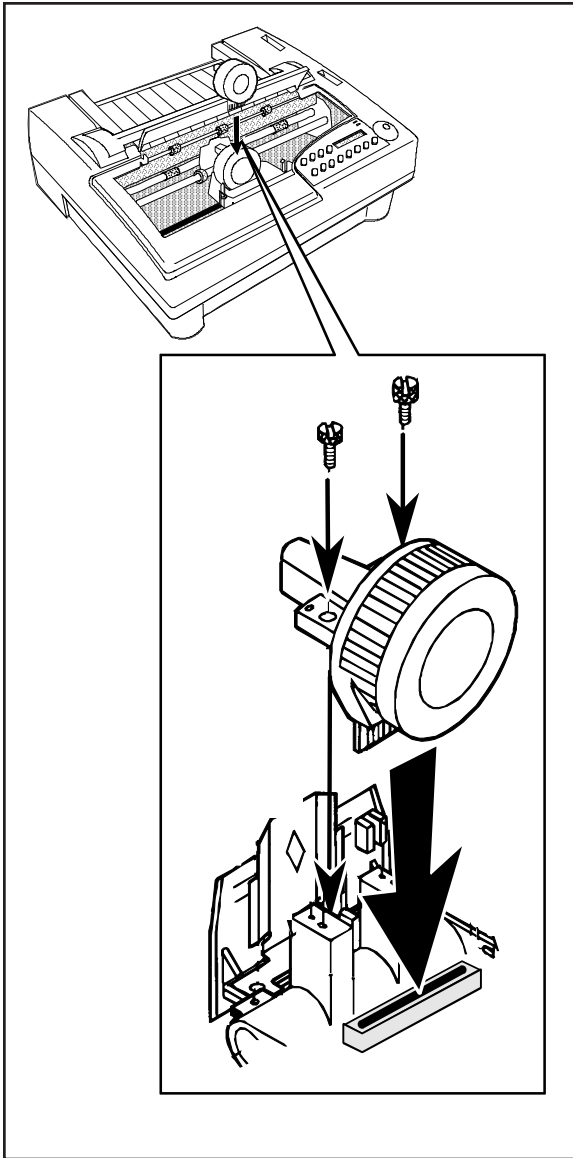

Figure 5-10. Replacing the Printhead
6. Align a new printhead over the carriage and plug it into the receptacle, as shown in figure 5-10.